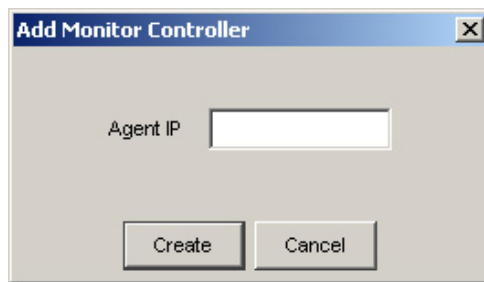

Figure 4-19: Adding RAID Agent IP
Step 3. Enter the IP address of the array you wish the Root Agent to manage. Click **OK** to complete the process. An example is shown in *Figure 4-19*.